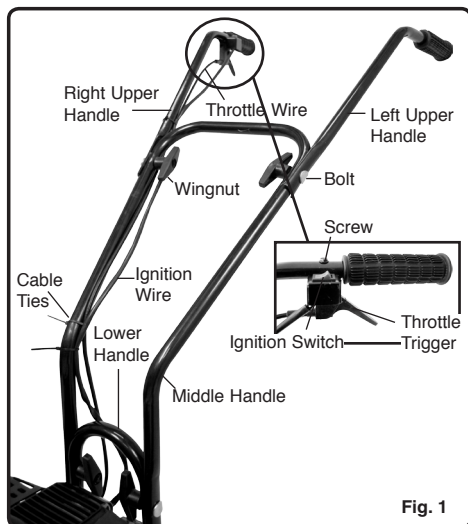

Fig. 1
2. Assemble the middle handle to the lower handle with the 2 bolts and wing nuts. Refer to Figure 1. Firmly hand-tighten the wing nuts.
3. Attach the upper handles to the middle handle using the two remaining bolts and wing nuts. Refer to Figure 1.
4. Assemble the ignition switch and throttle trigger to the right upper handle with the screw. Use included wrench. See Figure 1.